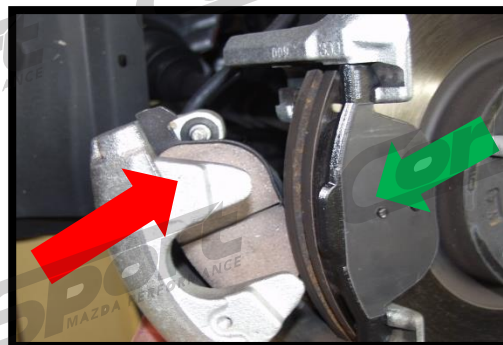

Figure 2b
- b) Place the outer brake pad into the caliper bracket, and place the caliper back onto the bracket (Figure 2b).
- b) Next, place the outer brake pad into the caliper bracket (green arrow), and place the caliper back onto the bracket (Figure 2b).